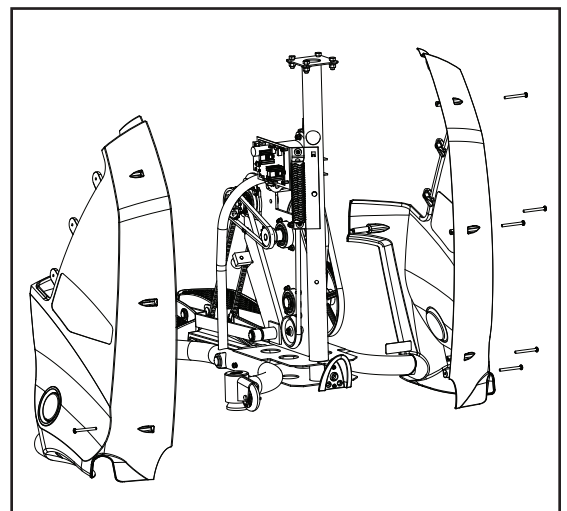

Figure 8
- 5-2 Remove the 6 Phillips screws attaching the right and left side covers and place to the side (see Figure 8).